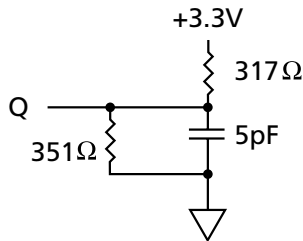
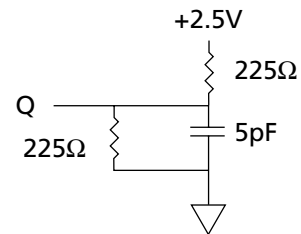

Figure 2
Figure 4
4. This parameter is measured with the output loading shown in Figure 2 for 3.3V I/O and Figure 4 for 2.5V I/O.